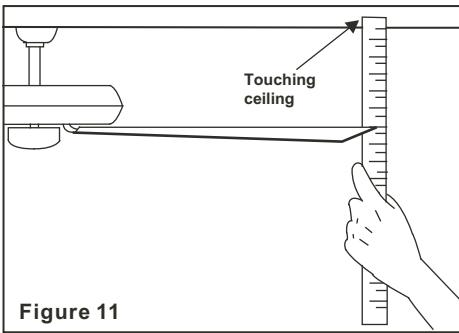

Figure 11
2. Most fan wobbling problems are caused when blade levels are unequal. Check this level by selecting a point on the ceiling above the tip of one of the blades. Measure this distance as shown in Figure 11. Rotate the fan until the next blade is positioned for measurement. Repeat for each blade. The distance deviation should be equal within  $1/8"$ .